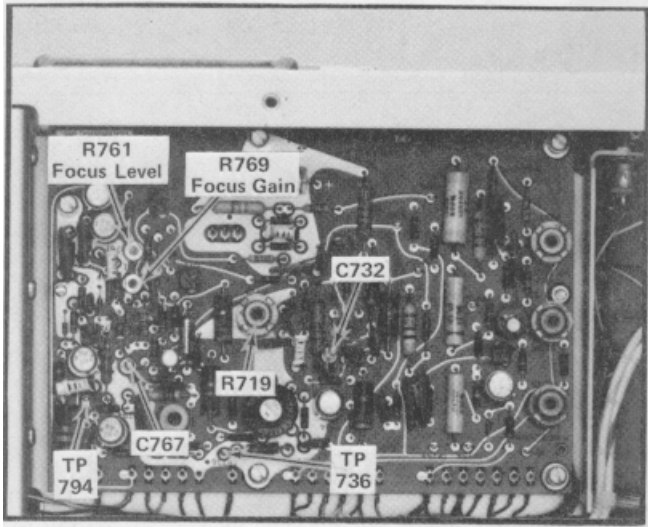
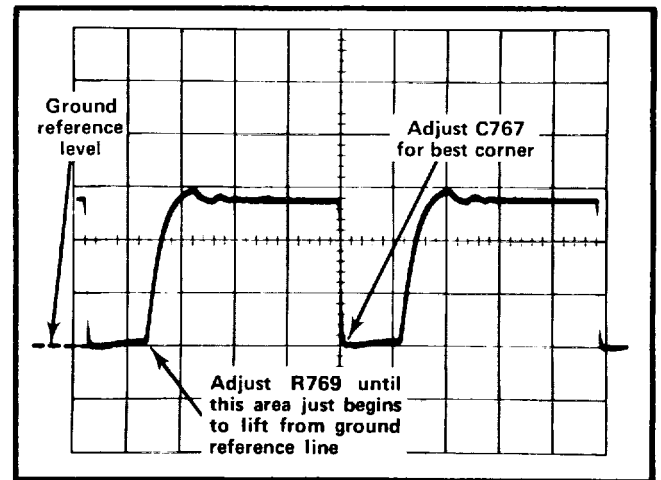

Fig. 5-11. Location of Z-Axis and auto-focus test points and adjustments (High Voltage/Z-Axis Amplifier board).
Fig. 5-12. Typical test oscilloscope display when adjusting autofocus operation.
- c. Connect the probe tip to TP 736 (see Fig. 5-11); connect the probe ground to chassis ground with a short grounding strap.
g. ADJUST-R719 and C732 (see Fig. 5-11) for optimum square leading corner while maintaining a risetime of 30 nanoseconds or less (use low-capacitance screwdriver to adjust variable capacitor).
b. Connect the test oscilloscope probe to TP 794 (see Fig. 5-11); connect the probe ground to chassis ground with a short grounding strap.
h. ADJUST-Focus Gain adjustment R769 (see Fig. 5-11) until the baseline of the waveform just begins to lift from the zero-volt level (see Fig. 5-12 for a typical waveform).
j. ADJUST-Focus compensation adjustment C767 (see Fig. 5-11) for best square corner (see Fig. 5-12) on the negative portion of the displayed waveform (use low capacitance screwdriver). Rotate the A INTENSITY control between midrange and maximum; if necessary, compromise the adjustment of C767 for best square corner throughout the rotation of the A INTENSITY control.